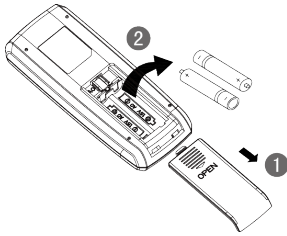

Fig.3
- (1) Slightly press the place with OPEN, and then push out the back cover of remote controller along the direction of arrow (as shown in Fig 3①).
- (2) Take out the original batteries (as shown in Fig 3②).
- (3) Place two 7# (AAA 1.5V) dry batteries, and make sure the position of +